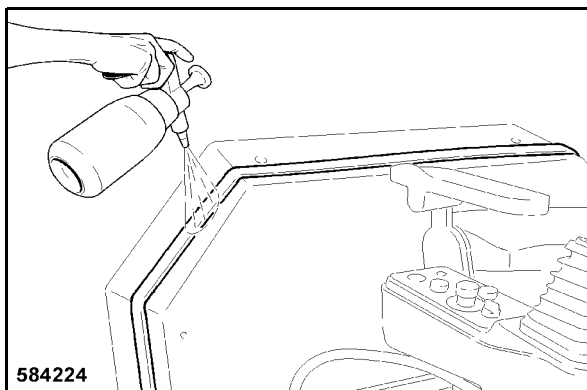

Fig. 208
- Spray the sealing tape with soapsuds (Fig. 208), to be able to slide the cabin on the operator's stand.